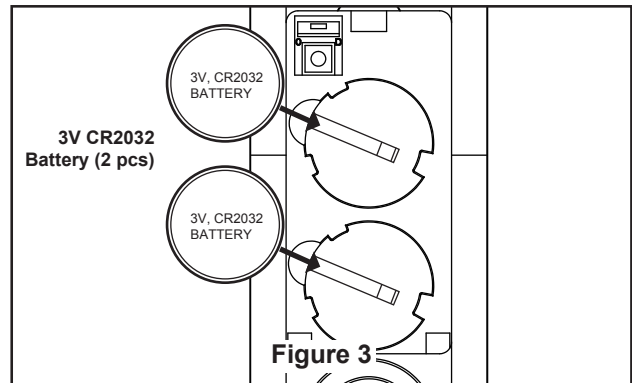

Figure 3
3. To make fan operational, install two 3V batteries (included) in hand-held remote transmitter, with fan power off. Then, follow the remote code setting process. If not used for long periods of time, remove battery to prevent damage to transmitter. Store the remote away from excessive heat or humidity. (Figure 3)